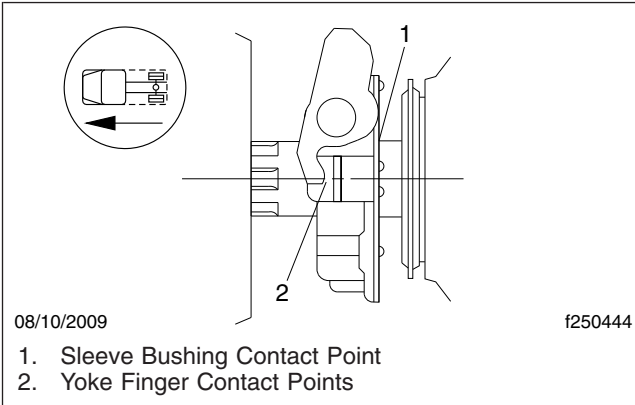

Fig. 3, Grease the Contact Points
4. Wipe off excess grease and apply to both the yoke finger and sleeve bushing contact points. See Fig. 3.
4. Wipe off excess grease, and apply it to both the yoke finger and sleeve bushing contact points. See Fig. 3.